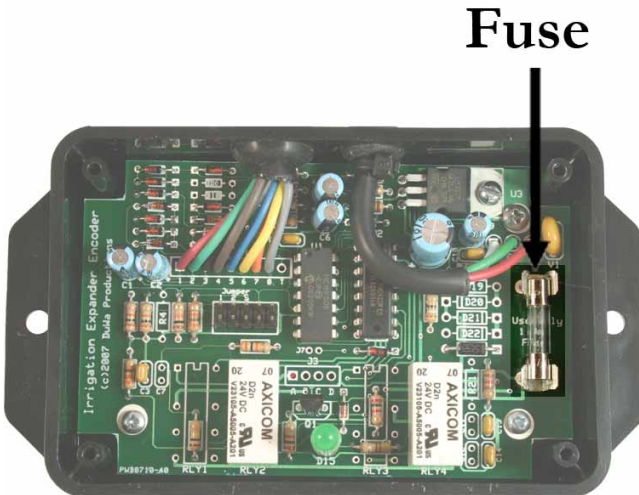

Figure 2 – Fuse Location
2. Remove the old fuse and replace with a fuse of identical rating (1 amp, 5mm x 20mm). See Figure 2 below for the fuse location.